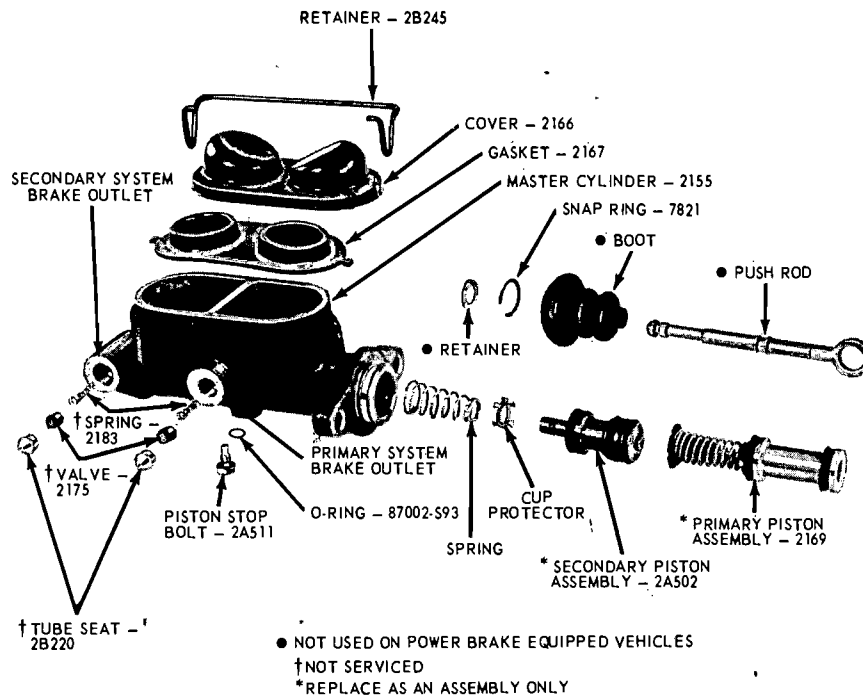

FIG. 20 Dual Master Cylinder Disassembled
2. Remove the secondary piston stop bolt from the bottom of the cylinder (Fig. 20).
8. Install the bleed screw (if so equipped). Install the gasket (diaphragm) in the master cylinder filler cover. Position the gasket as shown in Fig. 20. Make sure the gasket is securely seated.